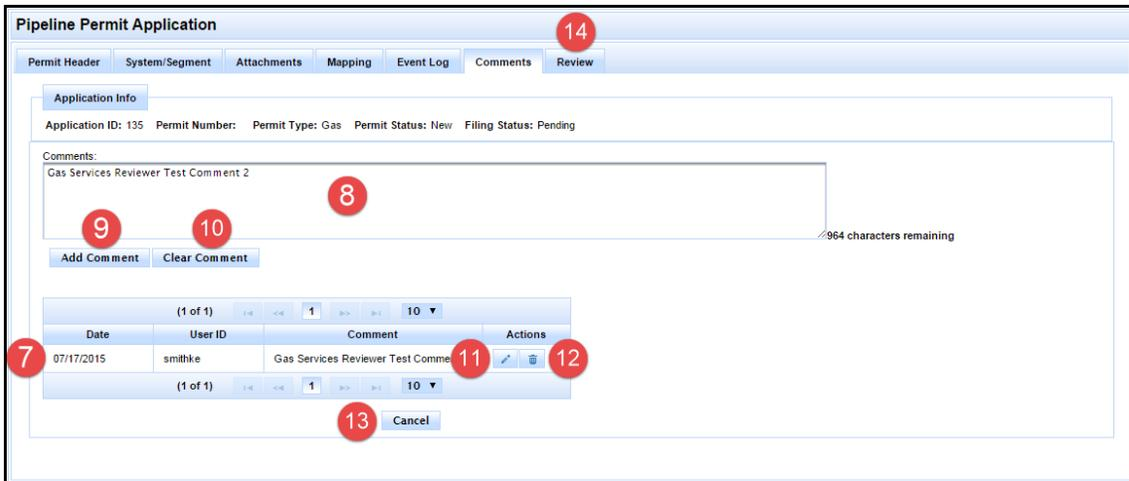

Figure 117: Gas Services Reviewer Comments Tab
- Review the information, if any, on the Amendment tab. When you are finished, click the Comments tab. An example Comments tab is shown in Figure 117.